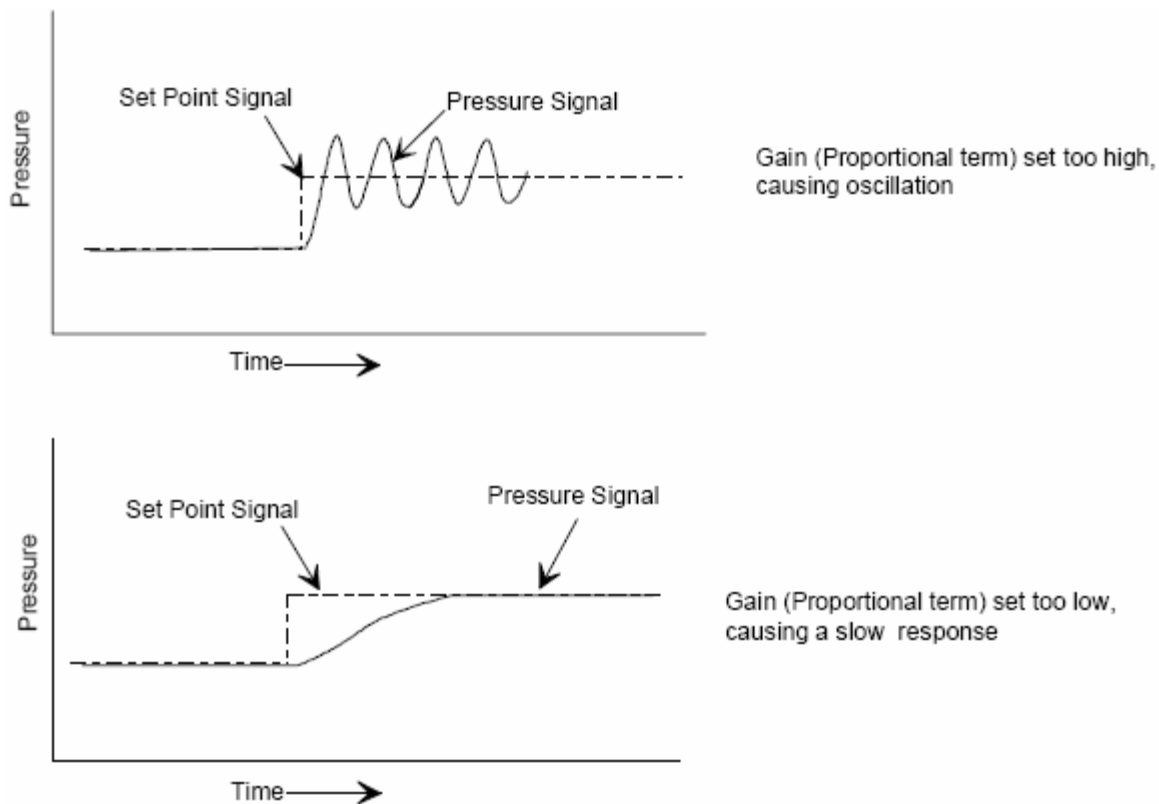

Figure 36: Effects of the Proportional Control
The proportional (P), or gain, term is used as a constant to create a valve drive signal that is proportional to the error signal. The error signal is multiplied by the proportional control setting (K_p), thus creating a proportional valve drive signal. The higher the proportional control, the greater the change in the valve drive signal. Typically, a higher proportional control setting yields a faster response. However, too high a proportional control setting will cause the pressure to oscillate around the set point. Too low a proportional control setting will result in a slow response from the controller. Figure 36 shows the effects of the Proportional term.